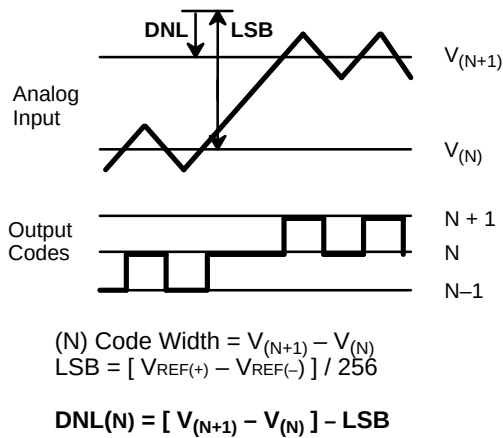
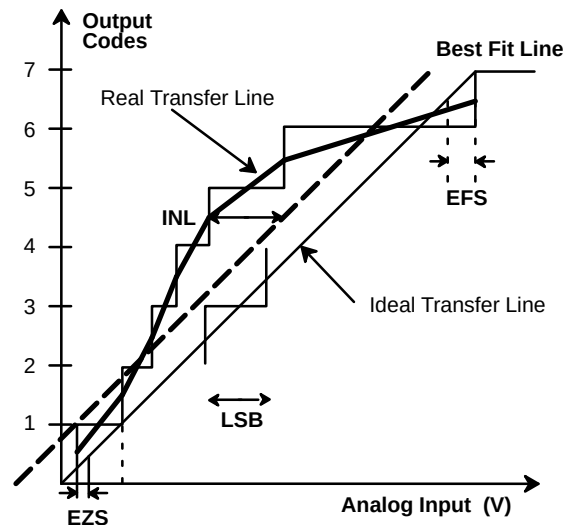

Figure 3. DNL Measurement
Figure 4. INL Error Calculation
- ² Tester measures code transitions by dithering the voltage of the analog input (V_{IN}). The difference between the measured and the ideal code width (V_{REF}/256) is the DNL error (*Figure 3*). The INL error is the maximum distance (in LSBs) from the best fit line to any transition voltage (*Figure 4*). Accuracy is a function of the sampling rate (F_S).